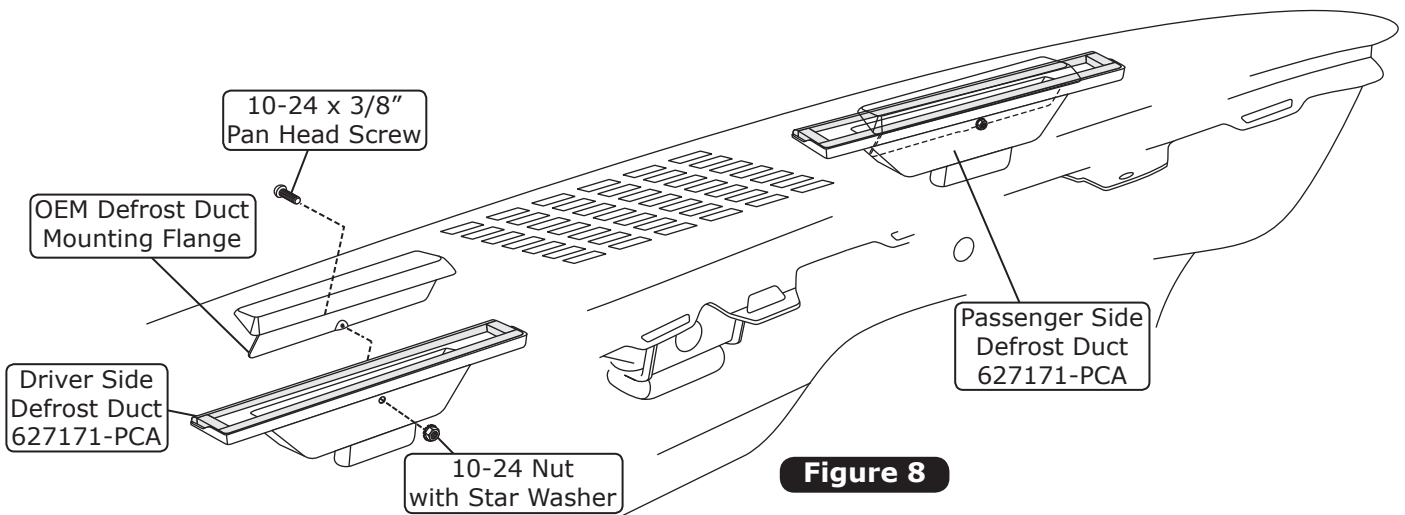

Figure 8
1. Install the defrost ducts under the dash on the OEM defrost duct mounting flange as shown in Figure 8, below. Secure each duct using a 10-24 x 3/8" pan head screw and 10-24 nut with star washer.